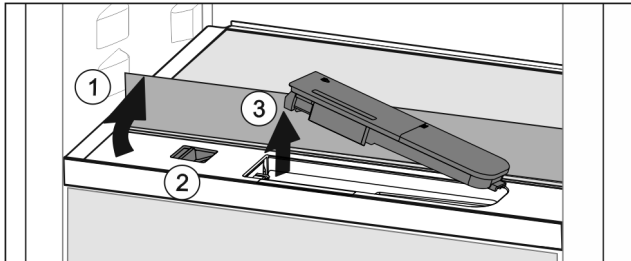

Fig. 74
- Lift the glass panel and fold towards the rear until it clicks into place Fig. 74 (1).
- Slide the slider Fig. 74 (2) to the left.
- Remove the water tank Fig. 74 (3).